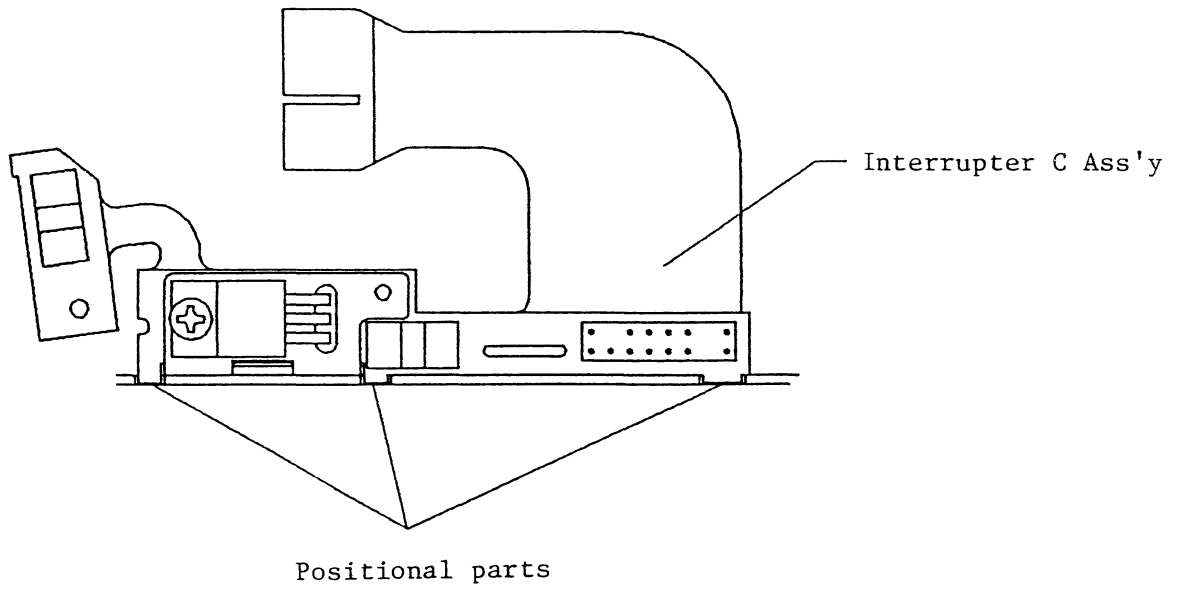

Fig.439 Replacement of interrupter C Ass'y (2)
- (i) Insert the three positioning parts of the interrupter C Ass'y exactly into the chassis holes. (Fig. 439)